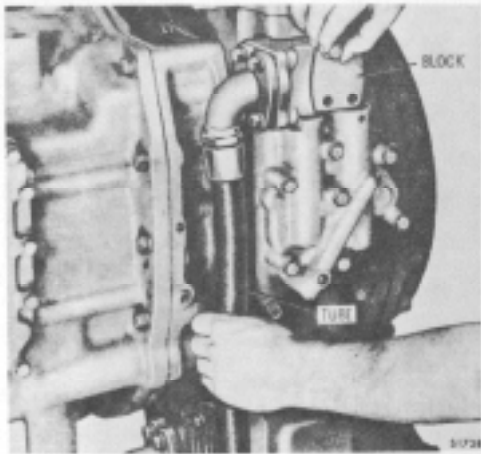

Figure 15-187. Installing Oil Pump Pressure Tube
14. For all models, install the connecting block with a seal ring at the upper location on the converter housing (Figure 15-187). Secure the block with two 7/16-14 x 2 inch and two 7/16-14 x 2-1/4 inch bolts and lockwashers. Tighten the bolts to 42-50 lb ft (57-67 N.m).